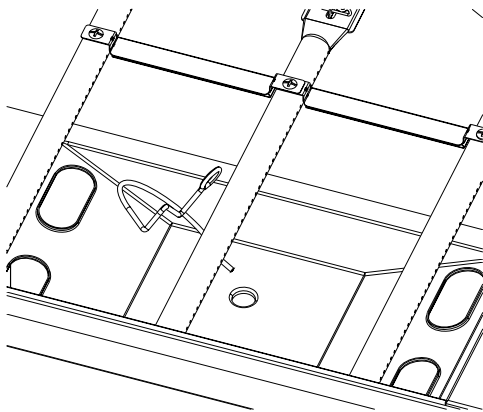

Fig. 24A
*Procedure:* Insert the Grease Cup Wire Hook through the grease drain hole on the bottom of the Cabinet as shown as Fig. 24A.